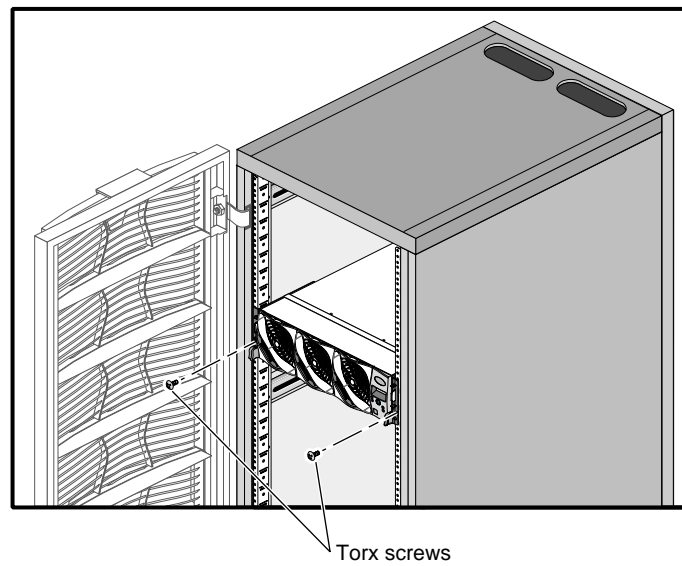

Figure 1-7 Module Installation
4. Install the two T25 Torx screws that secure the module to the front of the rack. See Figure 1-7.